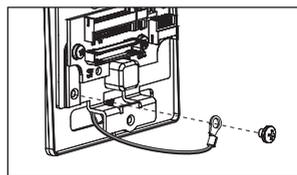

Fig. 6C
- g. Secure ground lug with #6-32 machine screw. (Figure 6C)